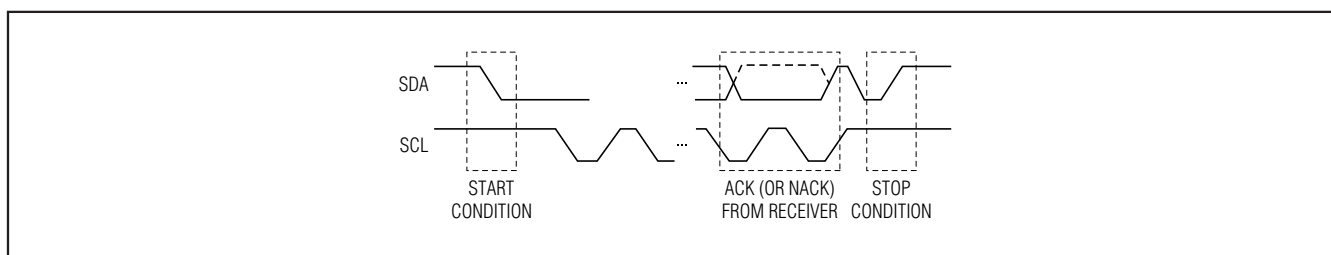

Figure 6. Start, Stop, and ACK Signals
**START Condition:** Signal generated by the master to indicate the beginning of a data transfer on the bus. The master generates a START condition by pulling SDA from high to low while SCL is high (see Figure 6). A “repeated” START is sometimes used at the end of a data transfer (instead of a STOP) to indicate that the master performs another operation.
**STOP Condition:** Signal generated by the master to indicate the end of a data transfer on the bus. The master generates a STOP condition by transitioning SDA from low to high while SCL is high (see Figure 6). After the STOP is issued, the master releases the bus to its idle state.
**Acknowledge (ACK):** When a device (either master or slave) is acting as a receiver, it must generate an acknowledge (ACK) on the SDA line after receiving every byte of data. The receiving device performs an ACK by pulling the SDA line low for an entire SCL period (see Figure 6). During the ACK clock cycle, the transmitting device must release SDA. A variation on the ACK signal is the “not acknowledge” (NACK). When the master device is acting as a receiver, it uses a NACK instead of an ACK after the last data byte to indicate that it is finished receiving data. The master indicates a NACK by leaving the SDA line high during the ACK clock cycle.